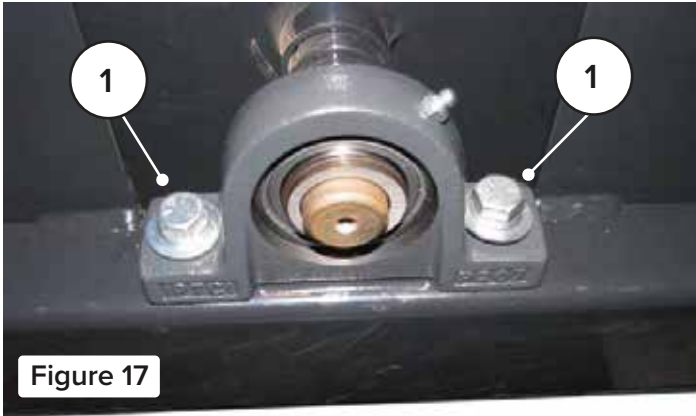

Figure 17
4. Remove the bearing mounting bolts (Item 1) from the opposite end of the spool with the drive sprocket. [Figure 17]